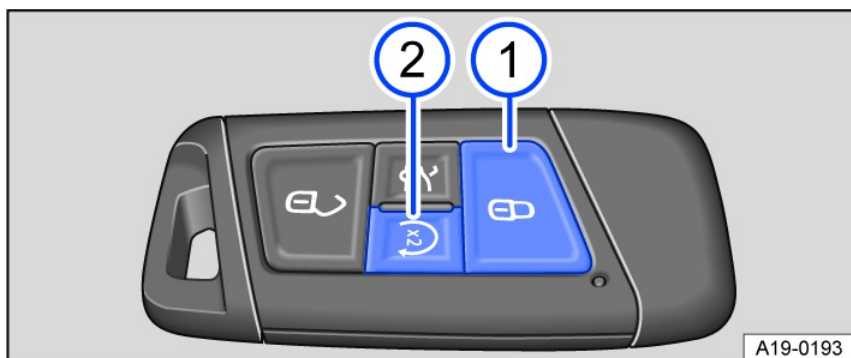

Fig. 97 Vehicle key with remote start relay function.
- Press the key  **fig. 97 1** **once**. All turn signals will flash.
Press the  button **fig. 97 2** in the vehicle key to switch off the engine.